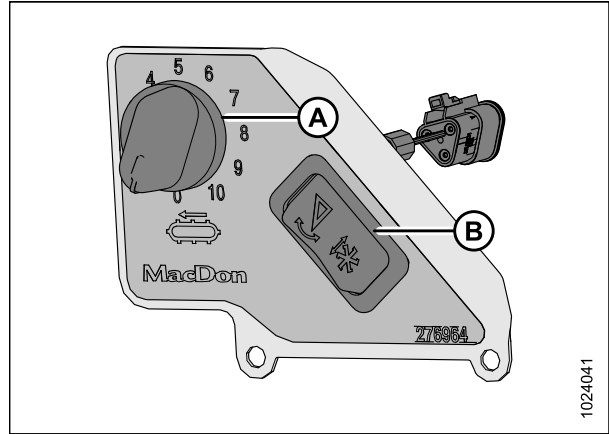

Figure 9.7: In-Cab Side Draper Speed Control
Switch (B) in Figure 9.7, page 284 allows the operator to switch between the header tilt and reel fore-aft controls.